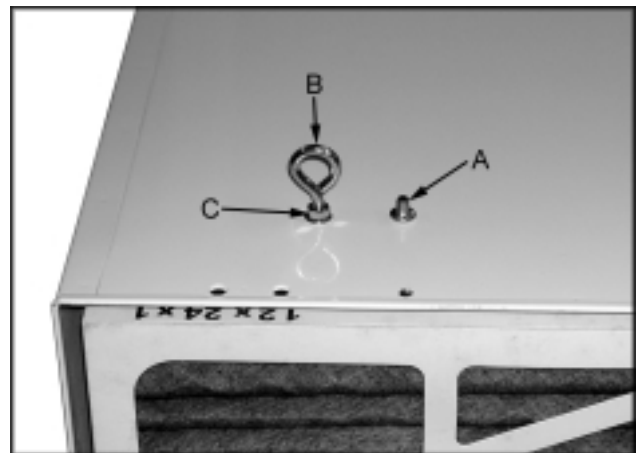

Fig. 1
2. The air filtration unit can be hung from the ceiling. Remove four screws from the cabinet top (A, Fig. 1).
3. Hang the unit using four eyebolts (B, Fig. 1), and four hex nuts (C, Fig. 1) provided.